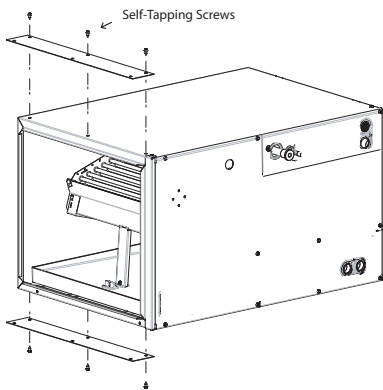

Fig. 4 - Horizontal Right Installation
1. Use field fabricated attachment plates to secure coil to furnace. (See Fig. 4.)